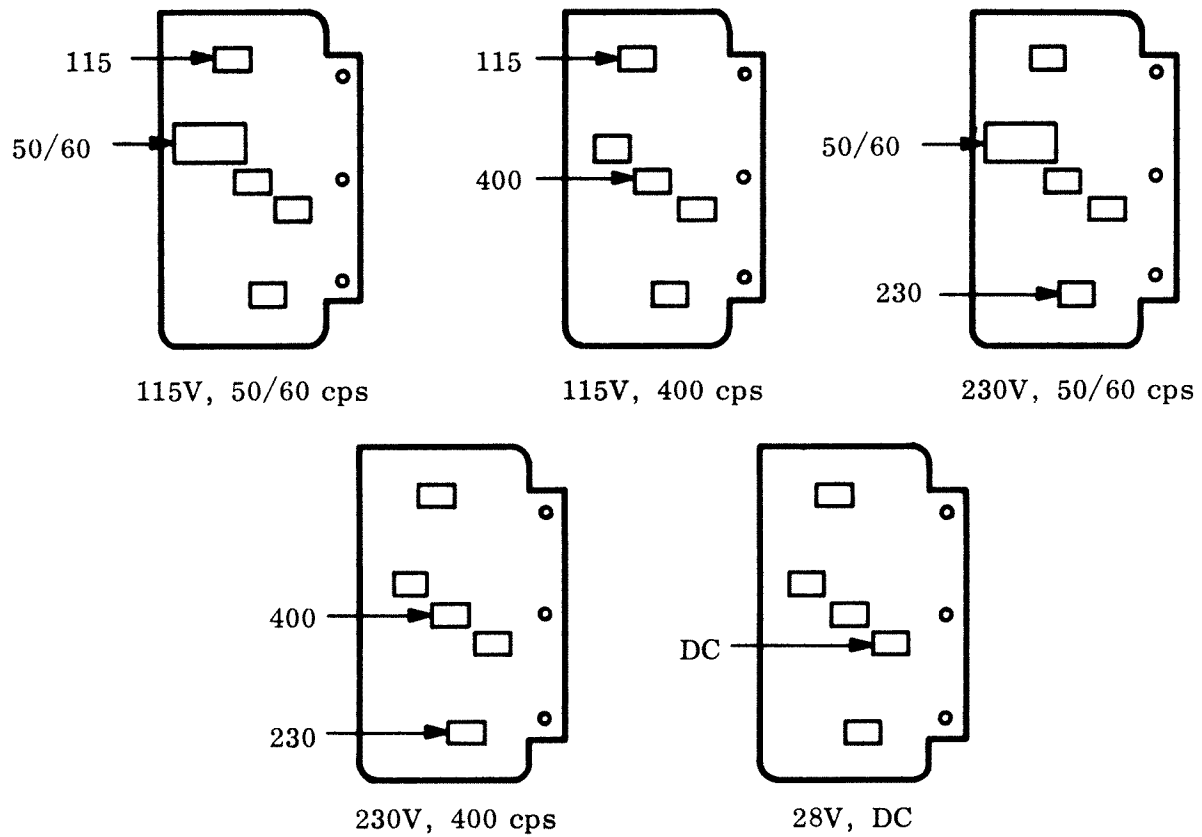

Figure 2-3. Power Control Case Jumper Plug Locations
2.26 In addition to the connections shown in Table 2-1 for the power input plug, the power control case selector plugs must be placed in the appropriate position for the type, voltage and frequency of the power source used. The selector plugs are placed in the position corresponding to the type of input power being used as shown in figure 2-3. When 28 volts dc input power is used, the voltage selector plug may be left in either position.